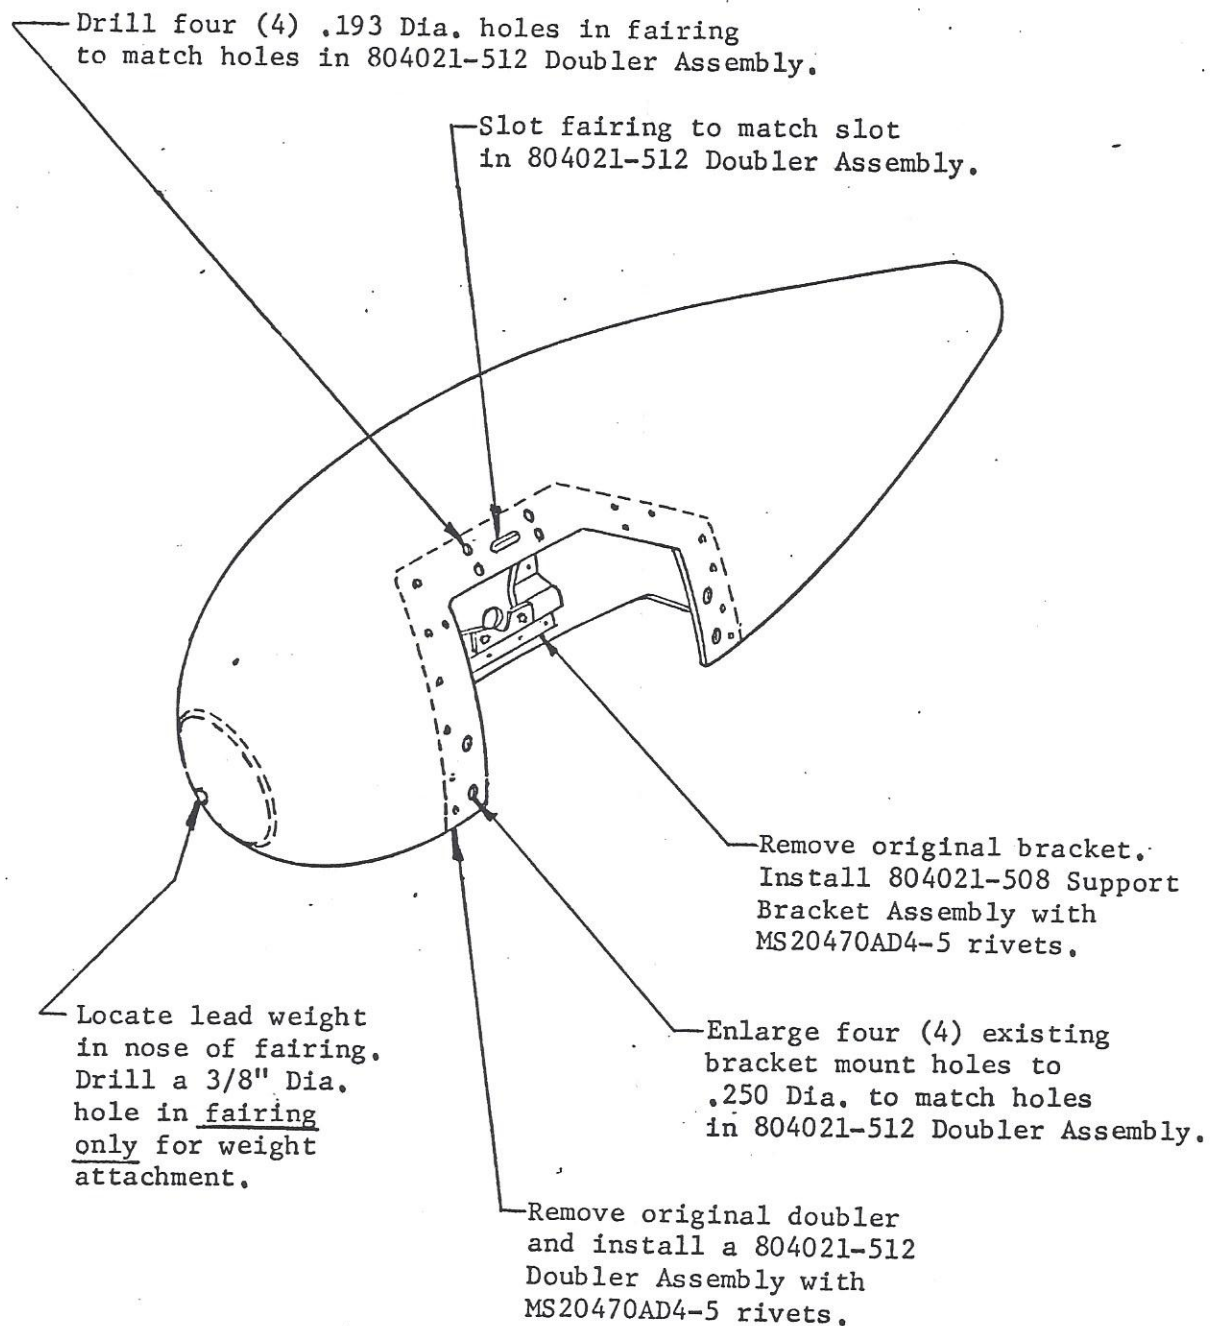

FIGURE 2. FAIRING MODIFICATIONS
### B. Fairing Modification (Refer to Figure 2)
3. Rivet the 804021-507 (LH) or -508 (RH) outboard fairing support bracket assembly and the 804021-511 (LH) or -512 (RH) inboard doubler assembly in place on the fairing using MS20470AD4-5 rivets. Locate the inboard doubler assembly using the lower rivet holes. See Figure 2.
4. Thoroughly clean the inside nose surface of the fairing and install the lead weight as shown in Figure 2. The lead weight must seat firmly centered against the inside nose surface of the fairing. Drill a 3/8 dia. hole in the fairing to accommodate the A3235-028 recessed washer which goes on the outside of the fairing when installing the lead weight attach bolt.
- a. Enlarge the four (4) original .193 dia. lower inboard mounting holes to .250 dia. See Figure 2.
- b. Drill four (4) additional .193 dia. holes, in the fairing only (use caution to avoid drilling into the nutplates), in line with the four (4) nutplates at the top of the doubler. See Figure 2.
- c. Slot the fairing to match the slot located in the top of the doubler between the holes drilled in step "B". See Figure 2.